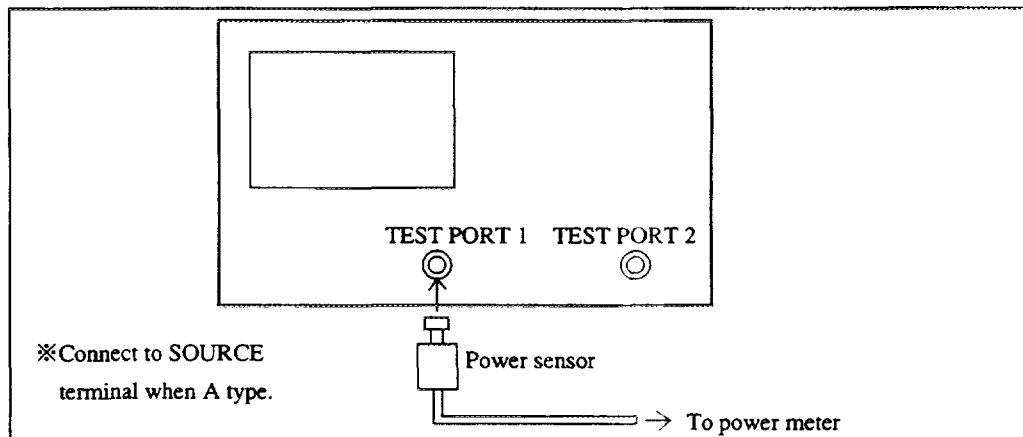

Figure 10-3 Output Level Linearity
3. Connect the power sensor to the output terminal and perform the measurement. (See Figure 10-3.)